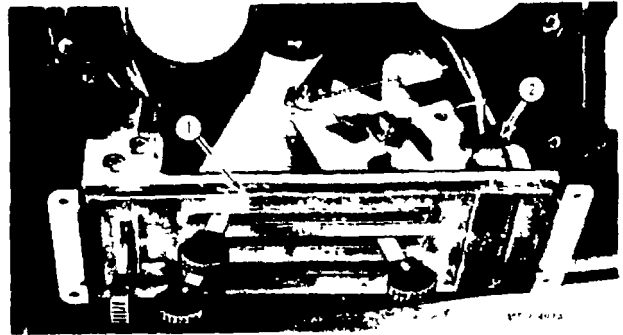

Fig. 19 Heater
2. Rotate light socket (Figure 19) clockwise (as viewed from rear of vehicle). Pull light socket (with bulb) from control assembly.